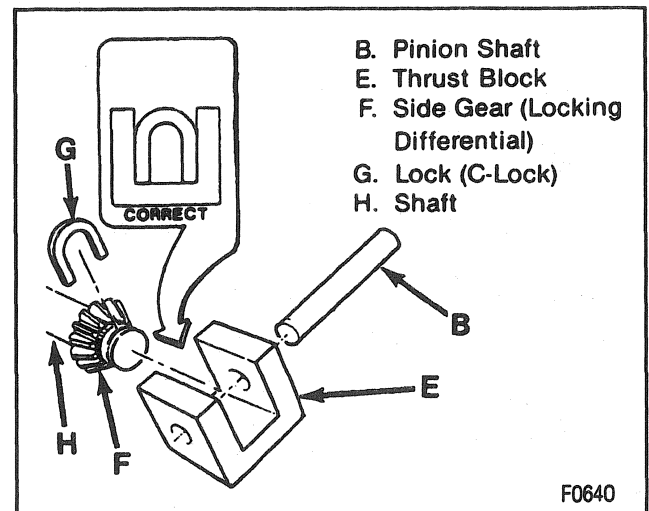

Figure 9—Aligning the Lock
4. Screw (A).
5. Pinion shaft (B).
- With a locking differential, remove the shaft (B) part way, and rotate the case until the pinion shaft touches the housing.
6. Lock (Figure 9).
- Slide the axle shaft into place allowing the splines to engage the differential side gear (F) (Figure 9).
- B. Place the lock in the position shown in Figure 9. Pull the shaft flange outward to seat the lock in the differential side gear.